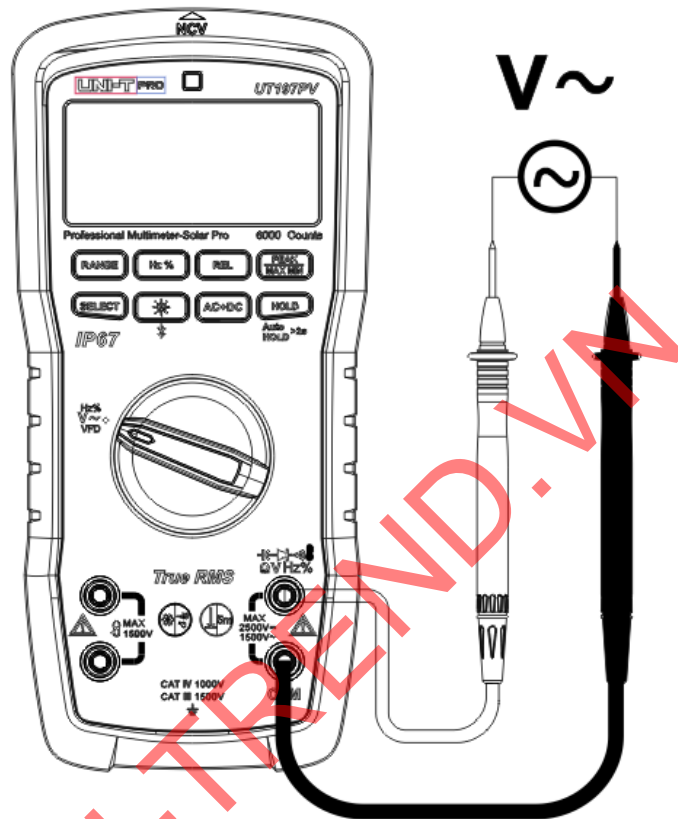

Figure 5
2. AC voltage measurement (Figure 5)